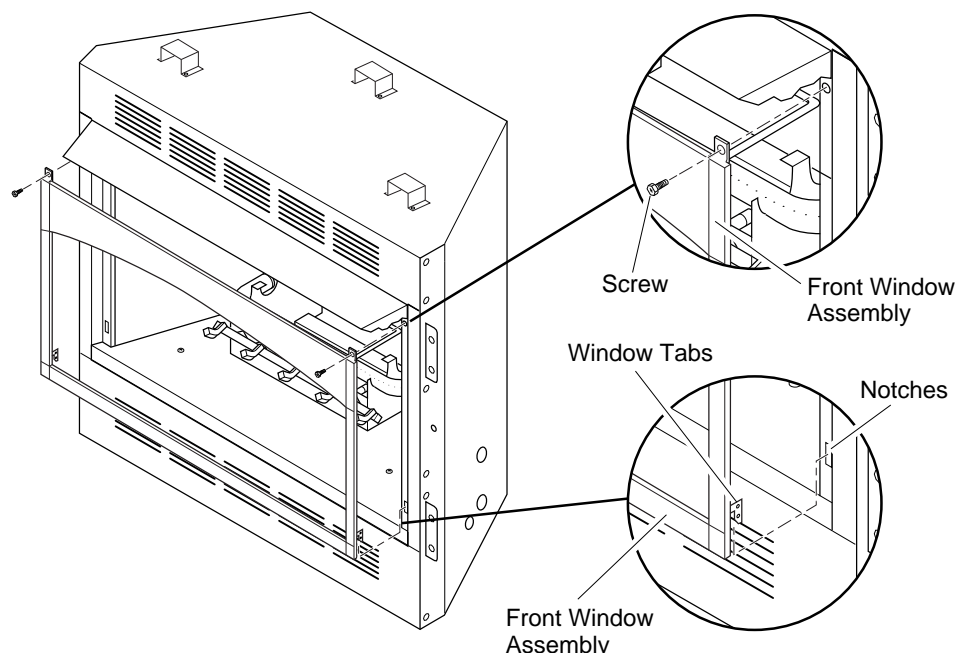

Figure 25 - Installing Fireplace Front Window Assembly
2. Install front window assembly to front of fireplace by slipping bottom window tabs into rectangular notches on fireplace front (see Figure 25). Then insert and tighten two screws through the top corners of the window assembly and fireplace front.